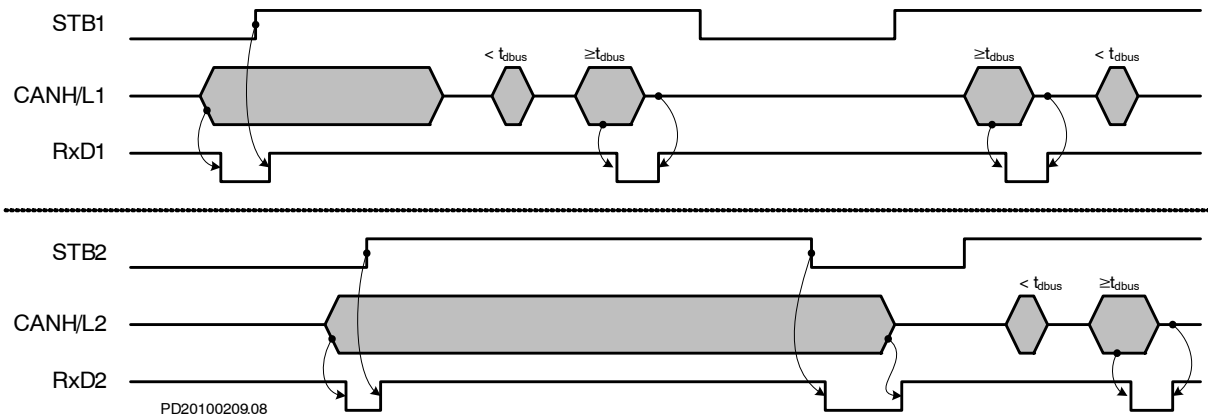

Figure 3. NCV7441 Dual CAN: Bus Activity Detection in Standby Mode
- ♦ Digital output RxD1/2 signals the output of the low-power receiver and can be used as a wakeup signal in the application. A filtering time  $t_{dBUS}$  is applied between the bus activity and the RxD1/2 signal in order to ensure that only sufficiently long dominant signals on the bus will be propagated to the digital output. In addition, dominant bus signals are ignored in case they were present during normal-to-standby mode transition; in this way unwanted wakeups are avoided in case of permanent dominant failure on the bus. Example waveforms illustrating bus activity detection in standby mode are shown in Figure 3.